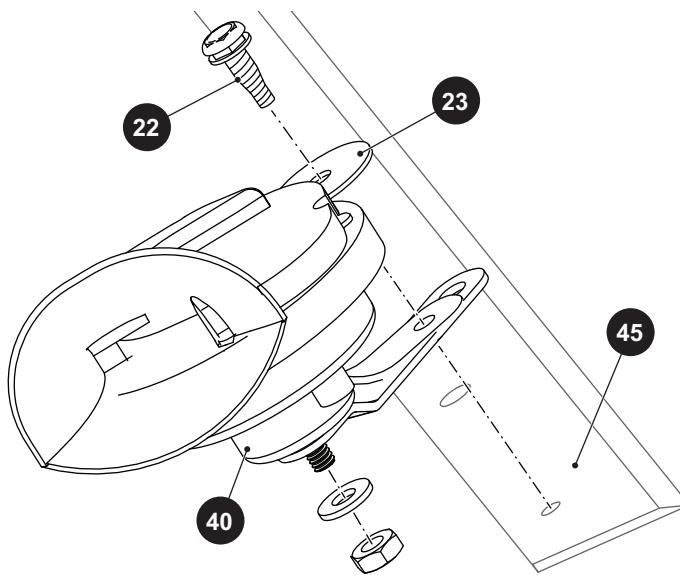

Fig. 15 Horn
3. Remove the push on electrical connectors from the horn (40) (Ref Fig. 15).
4. Remove the bolt (22) and washer (23) securing the horn (40) to the fascia (45) and frame.